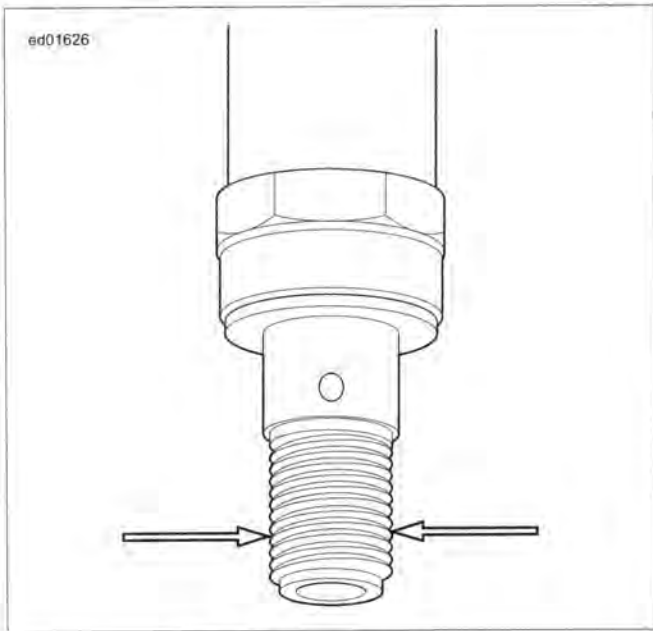

Figure 7-58. Bottom Third
2. See Figure 7-58. Identify a location around the threads of the ACR approximately one-third of distance from end.